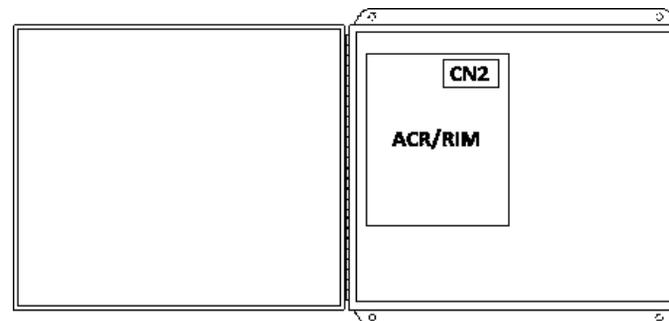

Figure 13-6 Connect to Controller
- Then run cable from RIM interface to the RS-232 configure for ACR/RIM on the SiteSentinel® iSite™ controller (Figure 13-6).